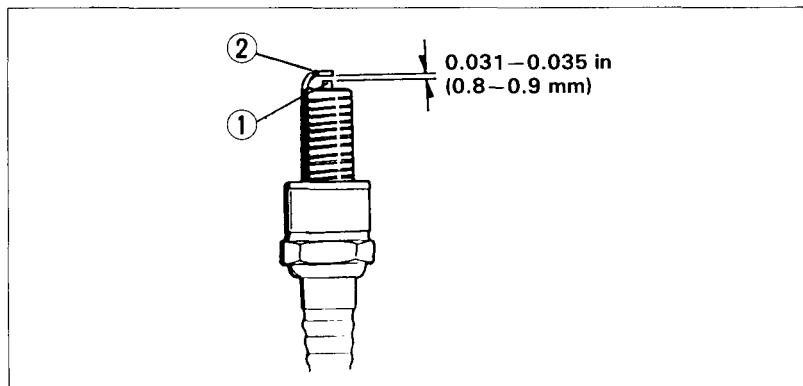

Fig. 4-15
4. Visually inspect the spark plug electrodes for wear. The center electrode (Fig. 4-15) should have square edges, and the side electrode (2) should not be eroded. If the electrodes and insulator tip appear unusually fouled or burned, we suggest that you contact your authorized Honda dealer.